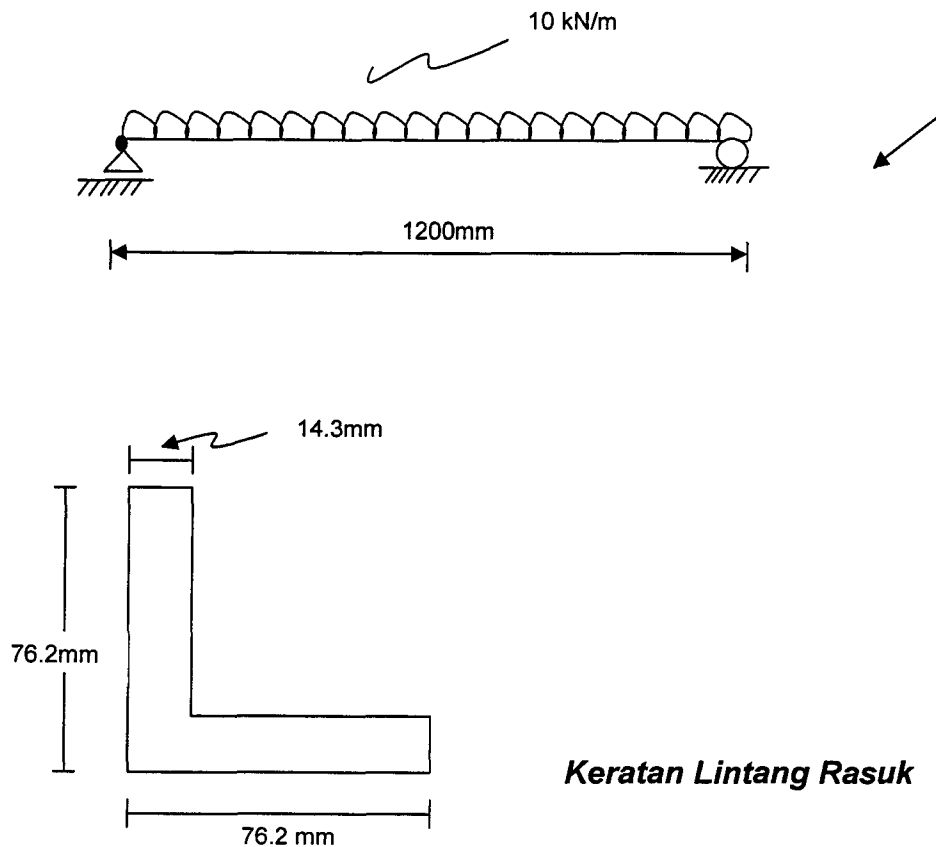

Figure 8.0/Rajah 8.0
6. Calculate the maximum bending stress in tension that can occur in the beam structure shown in **Figure 8.0**. If the uniform load on beam AB increases by 15%, calculate the increase in the maximum tensile bending stress for the beam.